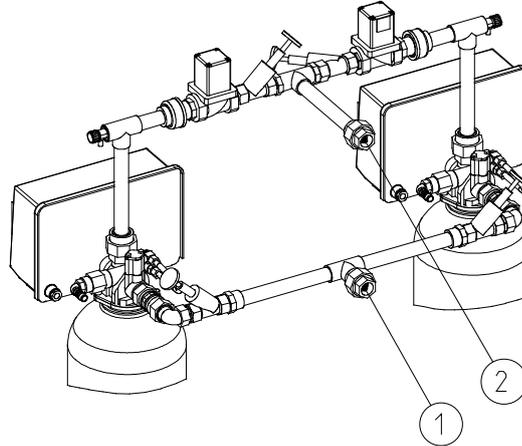

Fig. D-1: Piping of small systems
The pipe connections of the smaller systems point towards the back (refer to fig. D-1).
- Mount pipes according to fig. D-1.
- ① raw water inlet
- ② soft water outlet